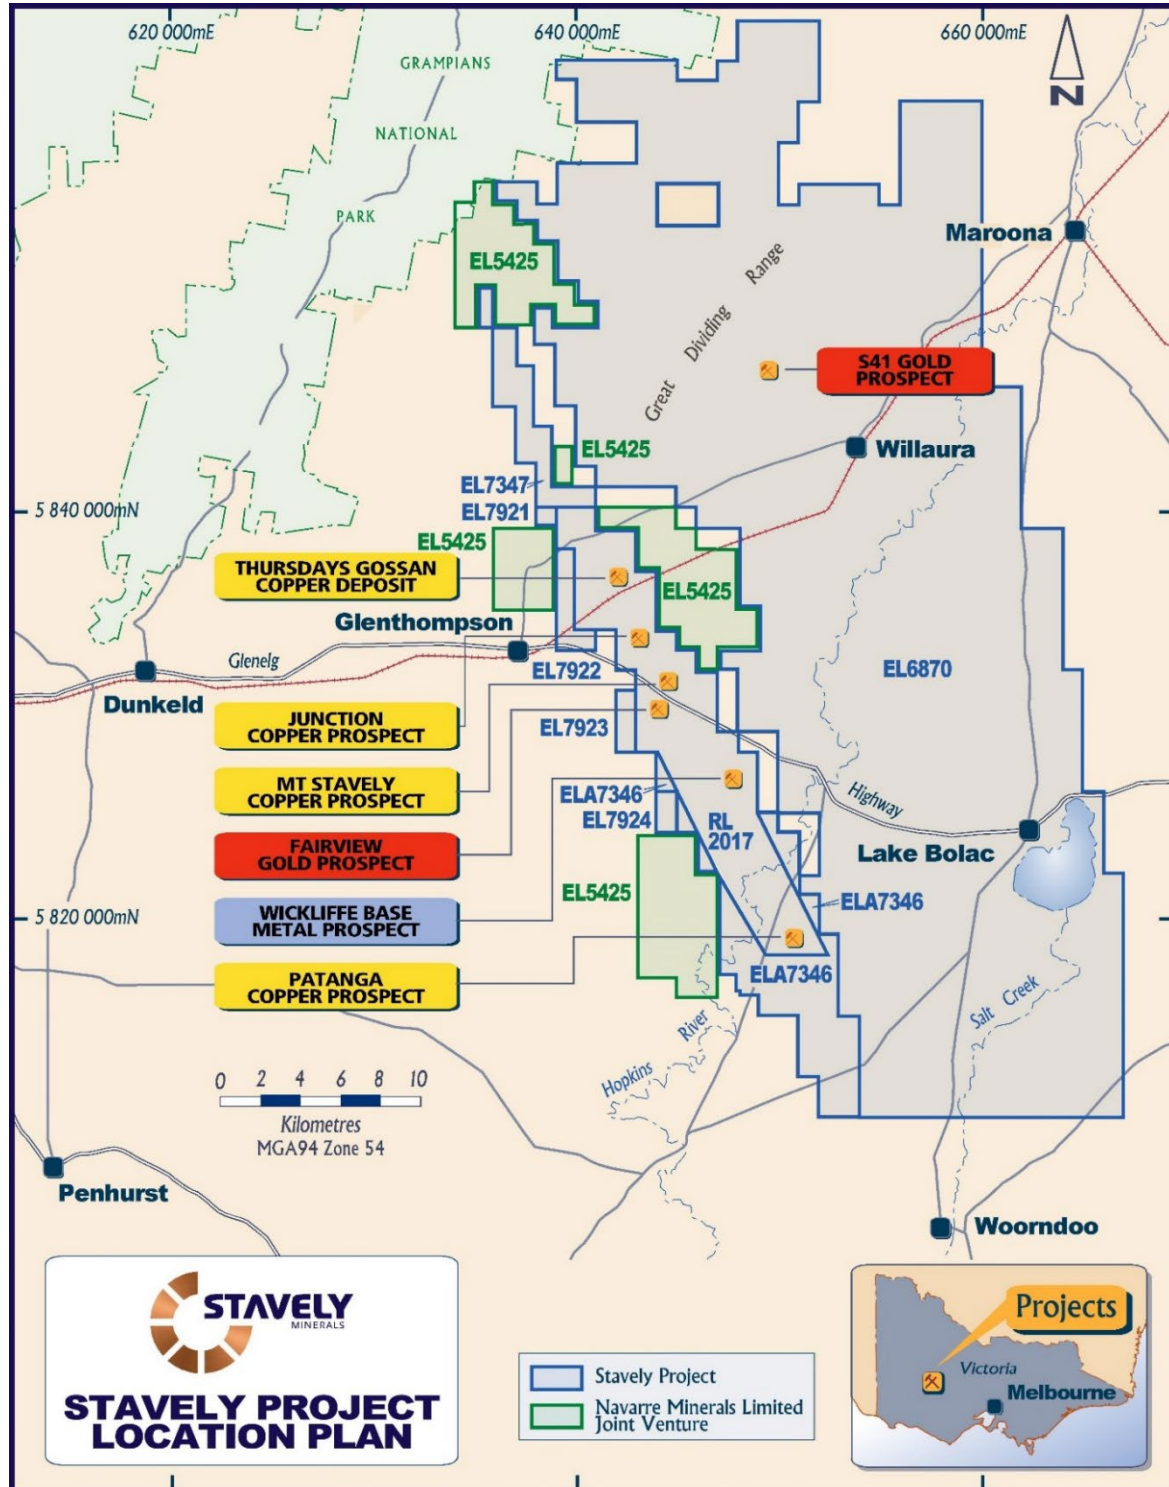

Figure 1. Stavely Project and prospect location map.
Stavely Minerals Limited (ASX Code: **SVY** – “Stavely Minerals”) is pleased to advise that it has intersected multiple wide zones of shallow gold mineralisation in recent gold-focused Reverse Circulation (RC) drilling at the Fairview North prospect at its 100%-owned **Stavely Copper-Gold Project** in western Victoria (Figures 1 & 2).